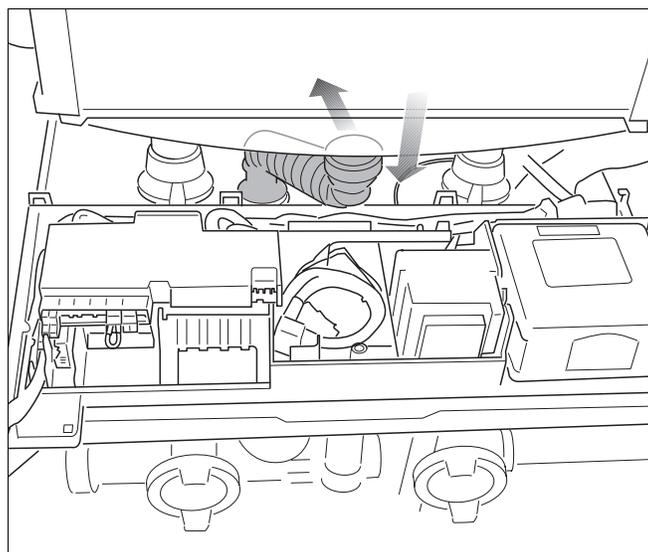

Fig. 91 Removing the condensate trap hose
- Disconnect the flexible condensate drain hose and bend it backwards (fig. 91).